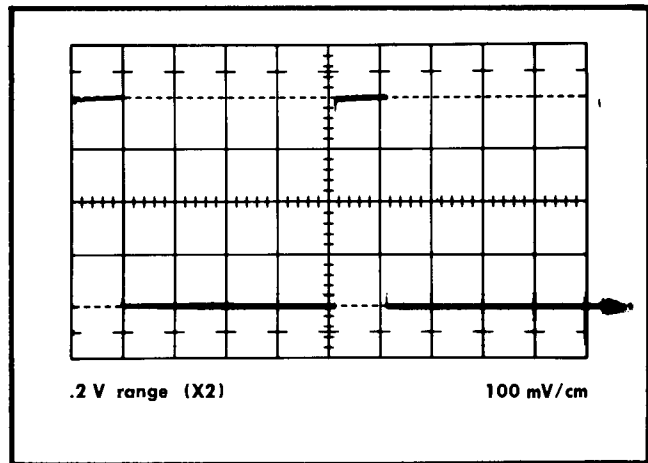

Fig. 6-3. Typical test oscilloscope display for checking remote amplitude range operation.
- e. Position the base of the pulse display 1 cm above the bottom graticule line (see Fig. 6-3).